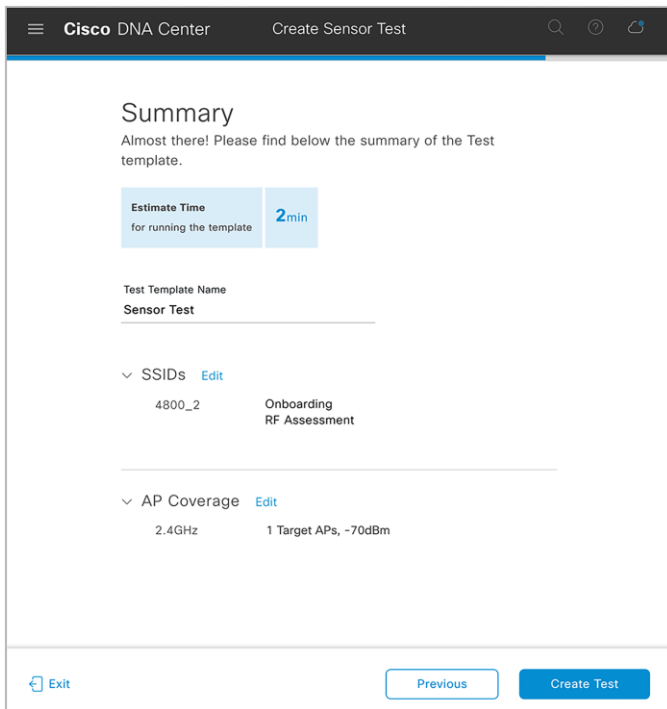
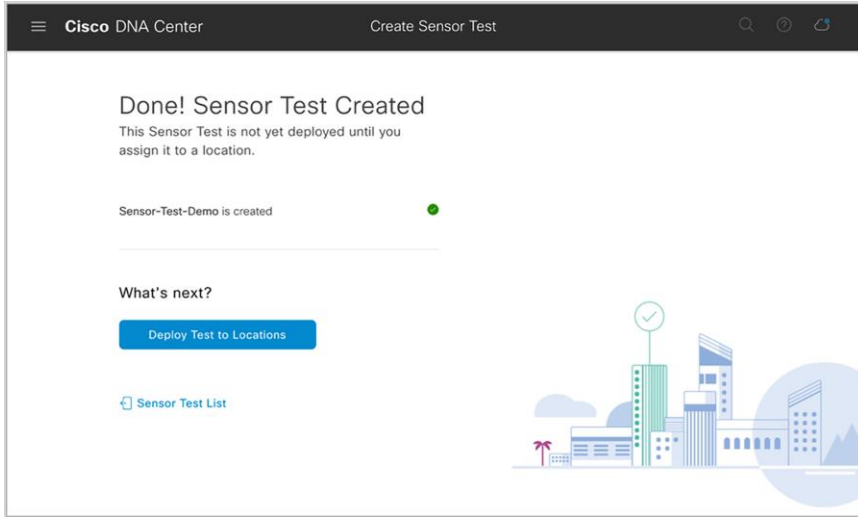

Figure 81.
Figure 82.
15. Click **Next (Figure 79)** to display the Summary page (**Figure 81**).
16. Click Create Test (**Figure 81**) to complete the sensor test creation process (**Figure 82**).
17. After you create the sensor test template, you can deploy a sensor test by clicking Deploy Test to Locations (**Figure 82**), or you can navigate directly to the Test Templates page (**Figure 83**).